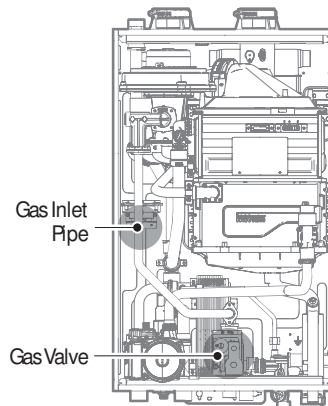

Figure 3. NCB-E Series Internal Components
8. With the internal components exposed, locate the gas inlet pipe and the gas valve in the middle of the unit, as shown in Figure 3.
9. Use a Phillips screwdriver to remove the two screws at location A - the connection below the gas valve where it connects to the pipe. See Figure 3 for reference. Once the screws are removed, carefully separate the pipe from the gas valve.